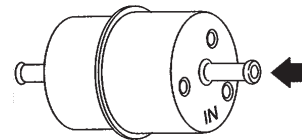

Figure 13. Fuel Filter
1. Replace the engine fuel filter (Figure 13) every 600 hours.